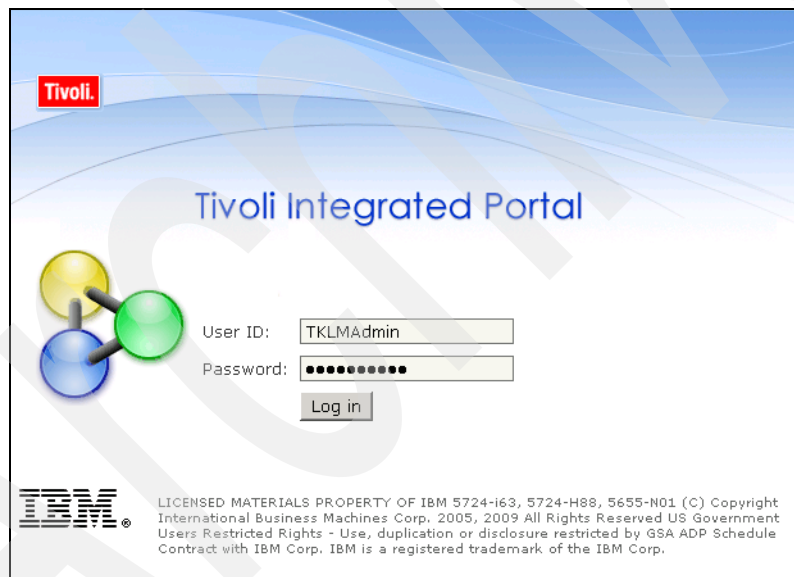

Figure 9-12 Tivoli Integrated Portal login using the TKLMAdmin user ID
1. Log in using the TKLMAdmin user ID (Figure 9-12).
- If you have not already done so, log in using the TKLMAAdmin user ID (Figure 9-12 on page 169).
1. If you have not already done so, log in using the TKLMAdmin user ID (Figure 9-12 on page 169).